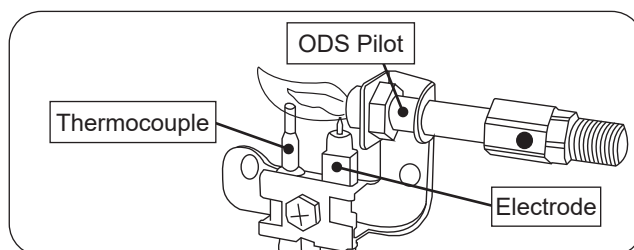

Fig. 26-2 ODS Pilot assembly detail
3. Locate the pilot assembly on the burner system (see Fig. 26-2).